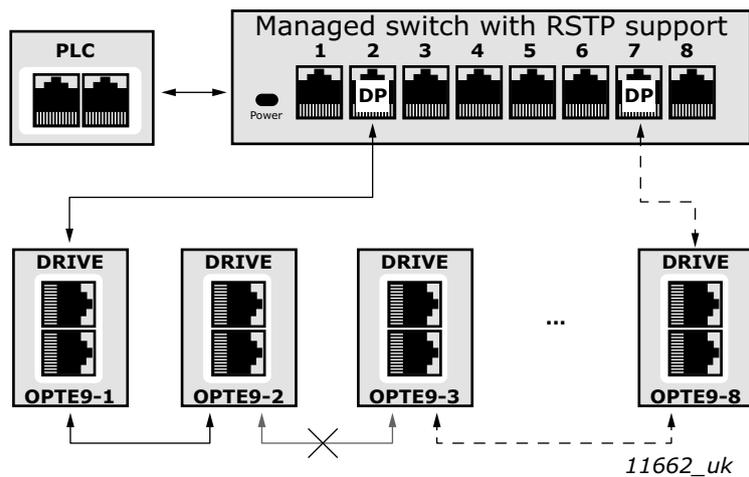

Figure 8. Ring topology: Error in network
In the RSTP configuration, one of the ports in the switch is "Designated Port" (DP) and the other "Alternative Port" (AP). When the network is functioning properly, the traffic flows through the designated port. Only the BPDU (Bridge Protocol Data Unit) packets are transferred through the AP port. The BPDU packets are used by the switch to determine if the network is working properly. If it detects that the BPDU packets do not go through the ring, it will change the alternative port to a second designated port. Now the switch will send packets to both directions in the broken ring (see Figure 8).